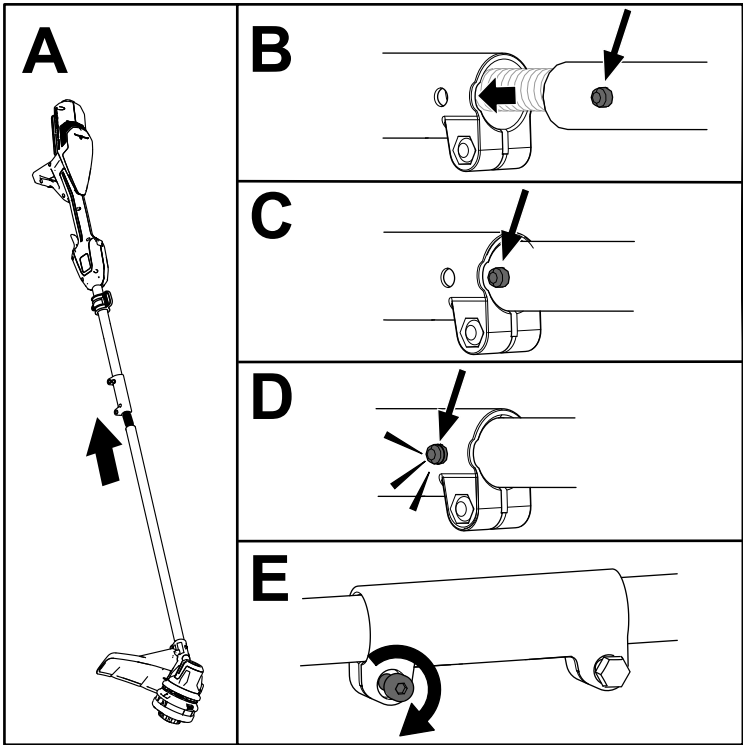

Figure 3
1. Unfold the handle (A of Figure 3).
2. Align the locking button on the lower shaft with the slotted hole on the upper shaft and slide the 2 shafts together (B and C of Figure 3).
**Note:** The locking button clicks into the slotted hole when the shafts are secured (D of Figure 3).
3. Using an Allen wrench, tighten the screw on the shaft connector until it is secure (E of Figure 3).